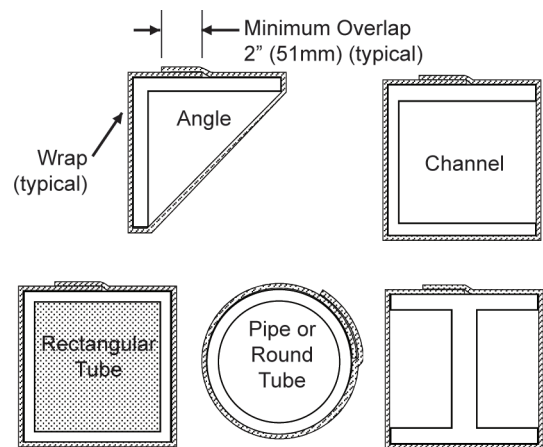

Figure 3-17. Wrap on Various Shapes.
1. See Figure 3-17. Using a flexible tape measure, measure and record the wrap width required, allowing for a minimum 2 in (51mm) overlap.
2. See Figures 3-17 and 3-18. Lay the wrap on a flat surface. Mark and cut it at the distance from Step 1.
5. Position the wrap, starting at the bottom of the brace. Wrap it around the brace, overlapping the ends as shown in Figure 3-17. Fasten the wrap to the brace with four tie wraps.